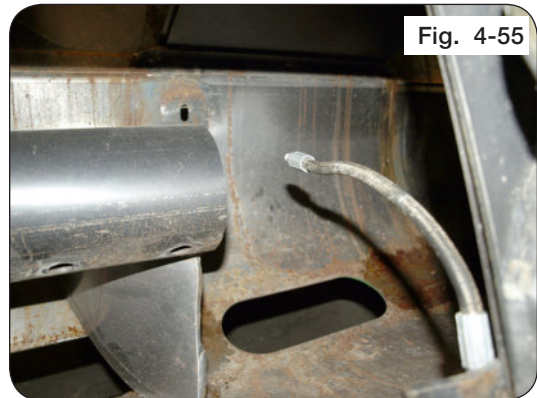
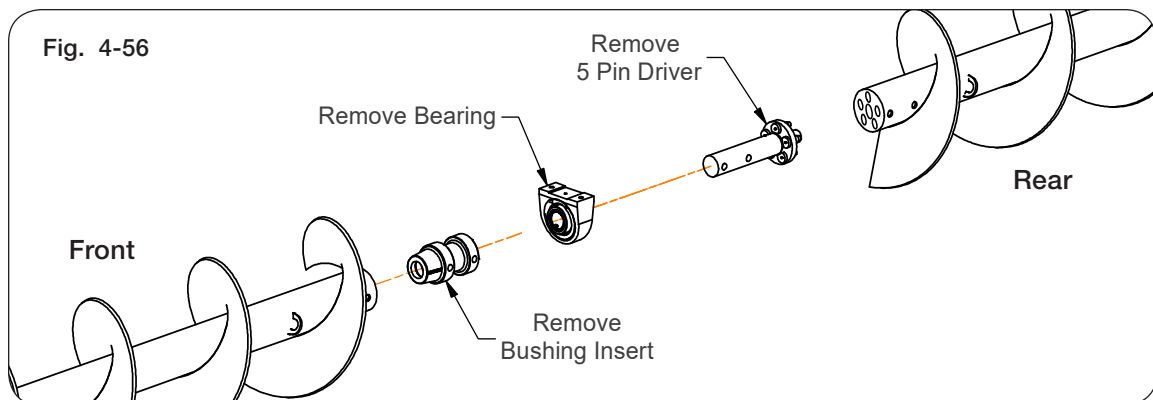
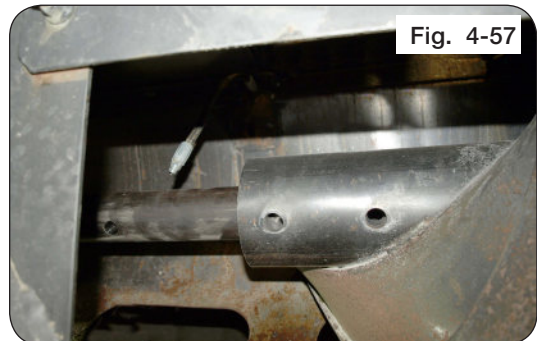

Fig. 4-55
Fig. 4-56
Fig. 4-57
14. Remove the original 5-pin driver, bearing and the bushing insert. (Figure 4-55 & Figure 4-56)
17. Slide bushing insert into front auger and ensure tube holes are aligned. (Figure 4-56 & Figure 4-57)